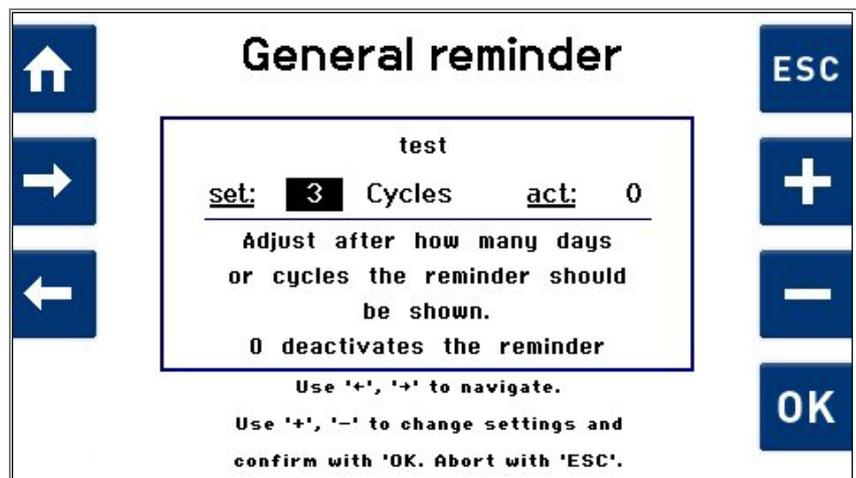

Fig. 7.1.6.10 Display for setting reminder interval
7. Using **←** / **→**, select between the input value and the cleaning machine *Cycles / Days* (see Fig. 7.1.6.10).